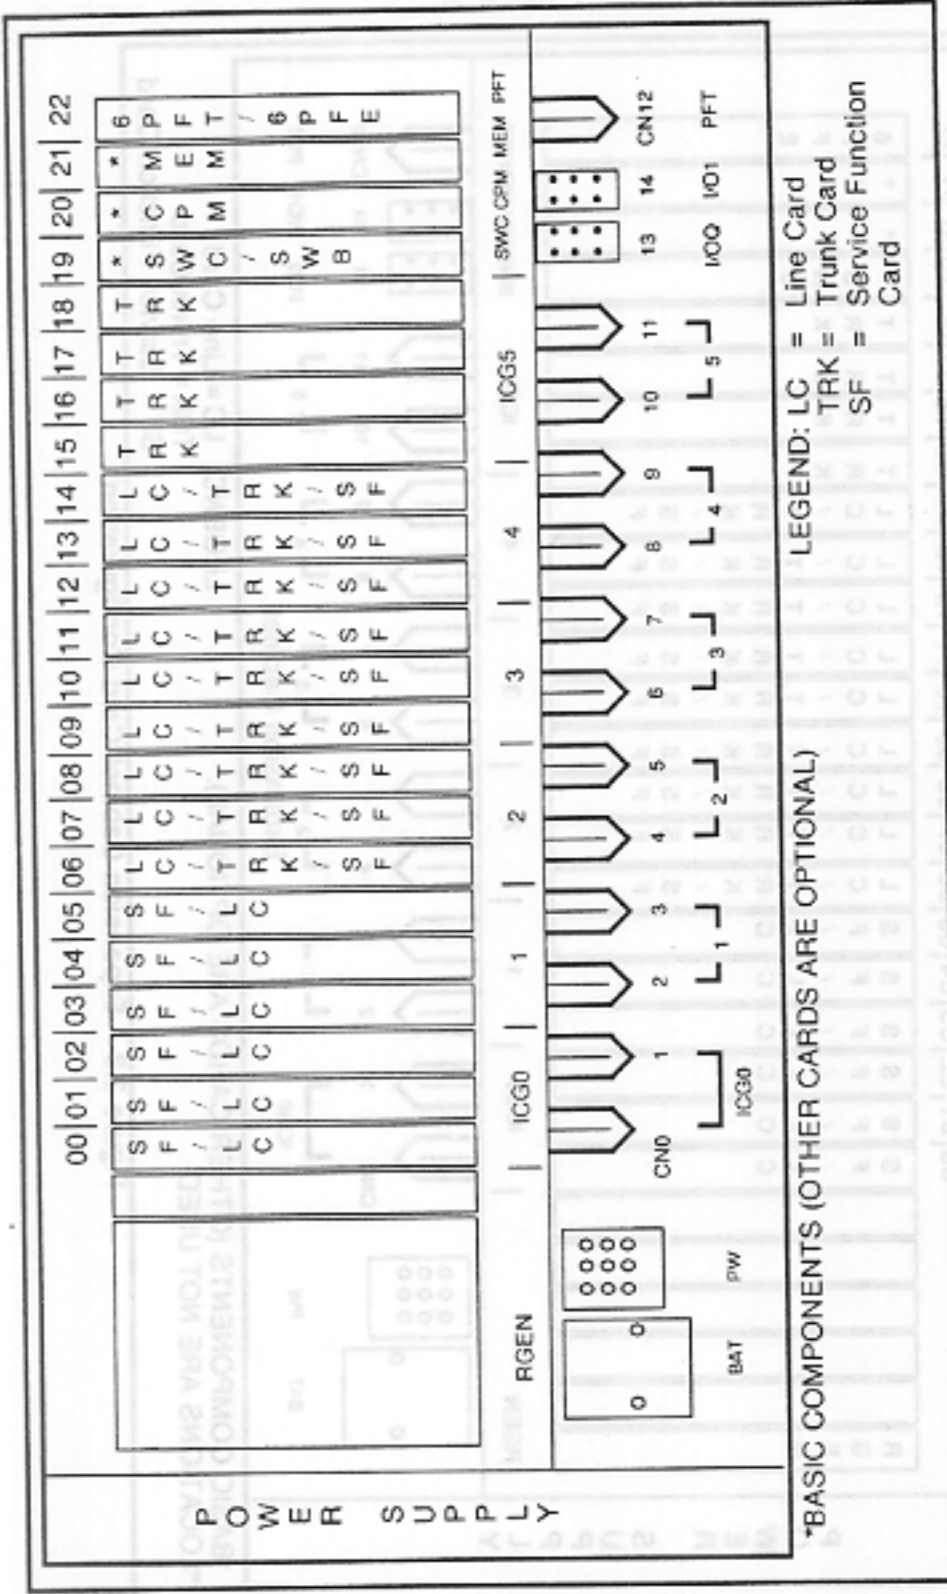

Figure 3.2 Basic Cabinet Card Configuration
3.3.1 Figure 3.2 shows the possible line, trunk, and service function card configurations for the basic cabinet.